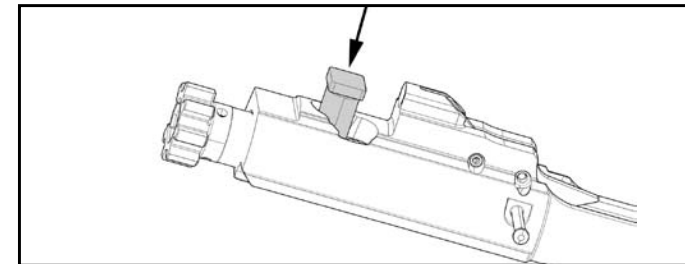

Fig. 45 – Bolt Carrier reassembly
- d. Insert the cam pin into the shaft of the bolt carrier, ensuring that the hole for the firing pin on the cam pin is aligned with the firing pin tunnels on both the bolt head and bolt carrier (Fig. 45).